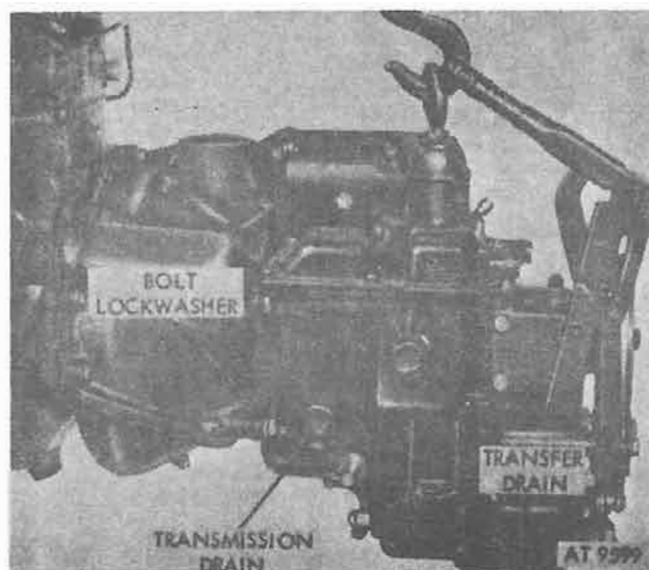

Figure 4-46. Transmission and transfer.
a. Removal. Remove transmission transfer assembly by following instructions given in procedures (1) through (3) below and shown in figures 4-46 and 4-47).
(1) Drain transmission and transfer (fig. 4-46).
(2) Remove four mounting bolts and lock-washers (fig. 4-46).